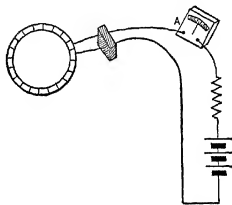

FIG. 236. Test for open armature coil. A coil is open if the ammeter reads lower than when connected across the other coils.
**Second:** If the sparking is due to a break in the coil, it will be violent and will always occur at one place on the commutator. To test for an open coil, disconnect the brushes and send a low current through the ammeter and one coil after another as shown in Fig. 236. Two metal strips, separated by a wooden block and spaced to touch one segment each and span one gap, make a desirable pair of terminals. If the ammeter shows very much lower reading when the metal strips are across any two segments, then the coil which is connected between these two segments is open. Usually the only remedy for a break or a ground in a coil is to take the coil off and either rewind it or replace it by a perfect coil.